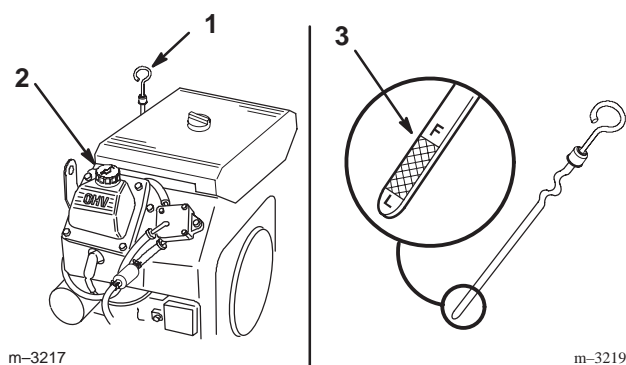

Figure 15
2. Clean around the oil dipstick (Fig. 15) so dirt cannot fall into the filler hole and damage the engine.
3. Unscrew the oil dipstick and wipe the metal end clean (Fig. 15).
4. Slide the oil dipstick fully into the filler tube, do not thread onto tube (Fig. 15). Pull the dipstick out and look at the metal end. If oil level is low, slowly pour only enough oil into the filler tube to raise the level to the "FULL" mark.
5. Slowly pour approximately 80% of the specified amount of oil specified, page 22, into the filler tube (Fig. 15). Now check the oil level; refer to Checking Oil Level, page 23. Slowly add additional oil to bring to "FULL" mark on dipstick.